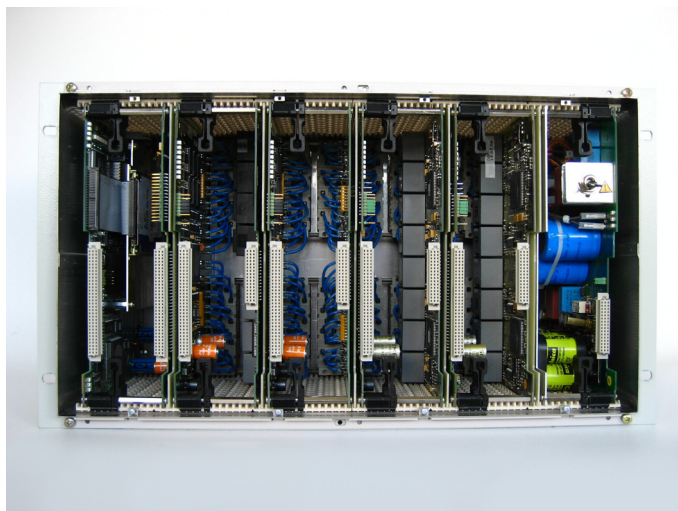

Figure 3-6 Internal view of device without bus board (view with 2.5" flash disk on CPU module)
- ❑ Remove the bus board from the modules and set it aside (see Figure 3-6).